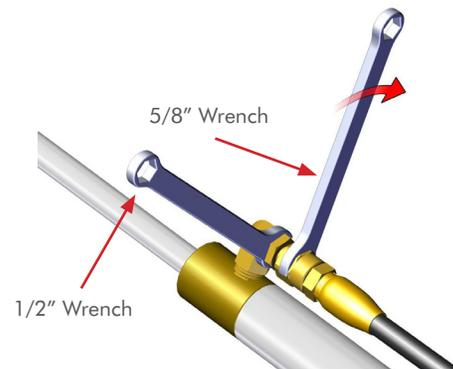

Figure 6
**STEP 4** While holding the **UP Cylinder Fitting Base** with a **1/2" Wrench**, turn the **UP Hose Fitting** clockwise a quarter turn with a **5/8" Wrench**. **FIG 6**